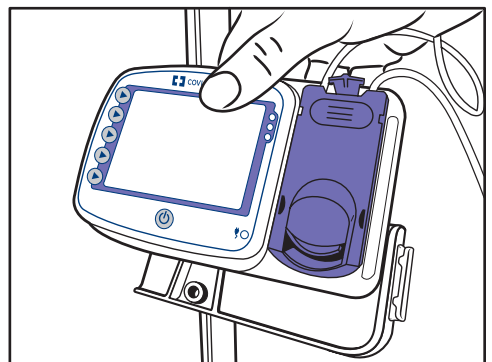

Fig. 4
3. Press the tubing into the tube guide creating a loop above the pump (see fig. 4).